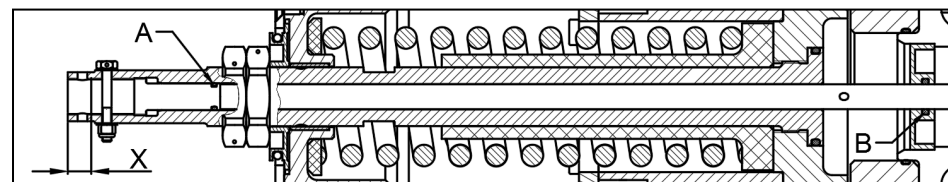

FIGURE 5-10
5.5 Before Installing the Propeller Ending in -R(G) on the Engine
- Measure the distance "X" (see Figure 5-10) for the dimension, how far the beta tube must be turned in (was recorded during previous propeller removal). This is important to set the low pitch stop.
- The O-ring „B“ in the engine flange and the O-ring „A“ on the beta-tube (see Figure 5-10) must be replaced with every propeller installation.
CAUTION: DO NOT SHEAR OFF MATERIAL OF THE O-RING NO. A+B (SEE FIGURE 5-10) DURING INSTALLATION OF THE BETA TUBE. THIS WILL CAUSE OIL LEAKAGE.